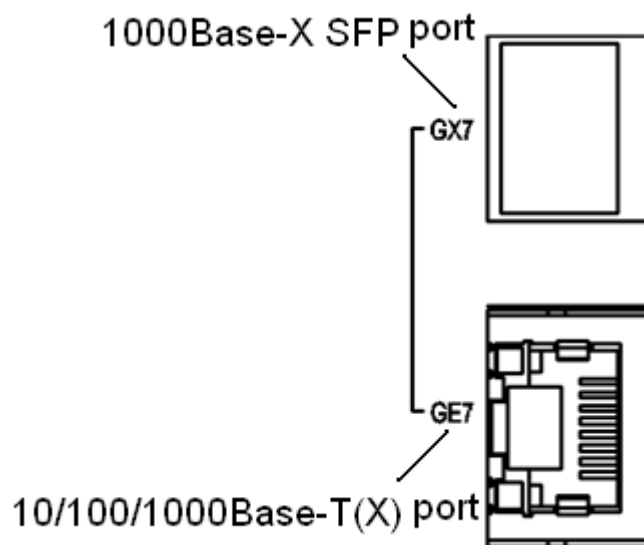

Figure 18 Combo Port
5.3 1000Base-X, 10/100/1000Base-T(X) Combo Port
As shown in Figure 18, The 1000Base-X, 10/100/1000Base-T(X) Combo port consists of one 1000 Base-X port (GX7) and one 10/100/1000Base-T(X) Ethernet port (GE7), and only one of the two ports can be used at one time. Besides, the 1000 Base-X port has priority over 10/100/1000Base-T(X) port. Plug the optical fiber and the twisted pair into GX7 and GE7 respectively; GX7 can communicate normally and the GE7 will be disabled automatically.